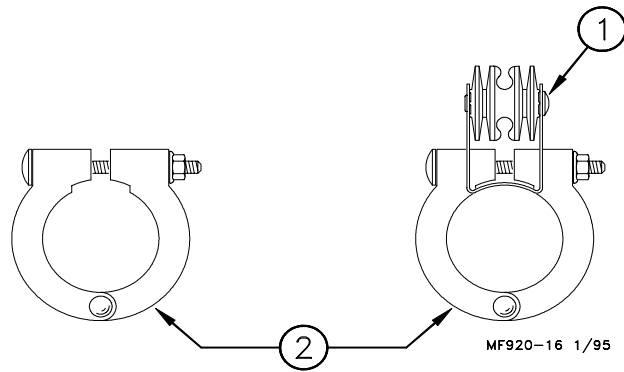

Figure 34. Tube Clamps (Side View).
- Place a Tube Clamp Assembly or Clamp/Anti-Roost Bracket at each joint. Figure 34 shows the standard Clamp and Clamp/Anti-Roost Bracket.